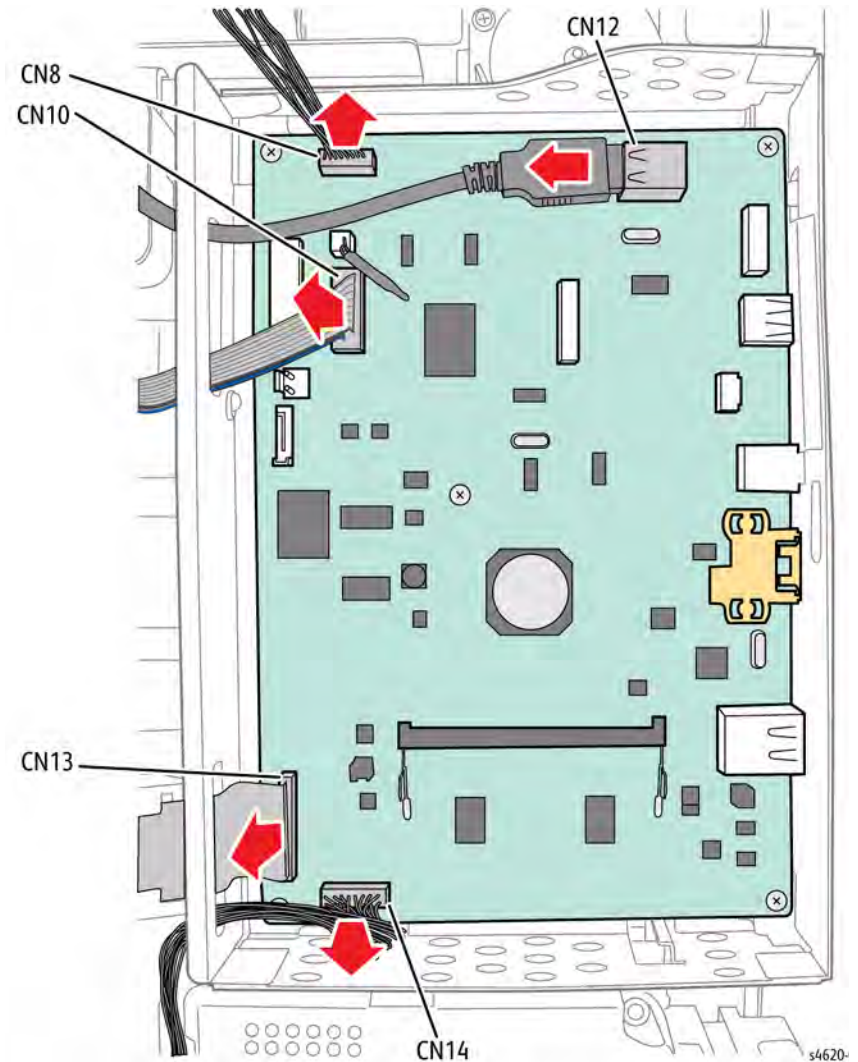

Figure 1 Disconnect the MCU Board
5. Disconnect 5 connections (CN8, CN10, CN12, CN13, and CN14) to the MCU Board and feed the harnesses out the holes provided, Figure 1.